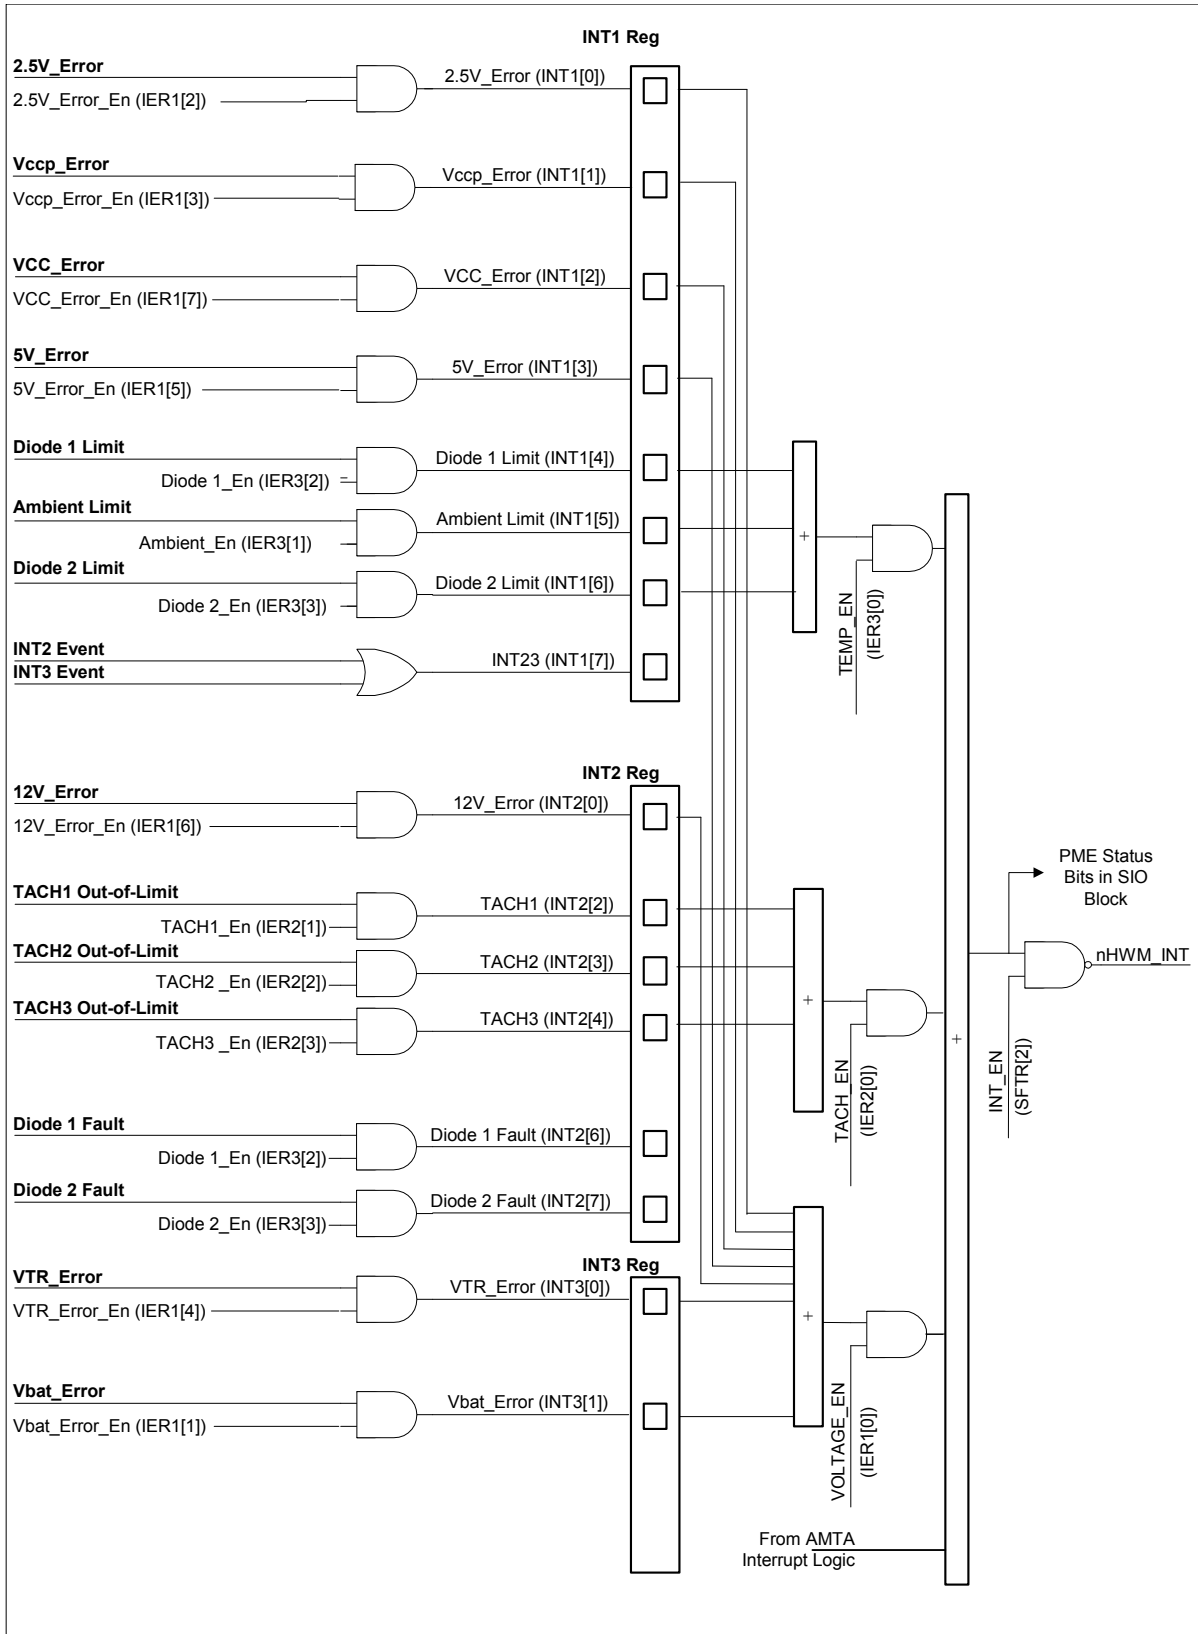

Figure 23.3 Interrupt Control
- The Primary Interrupt Status registers, and the Top Temp Status register may be used to generate a HWM Interrupt event (HWM_Event). A HWM Interrupt Event may be used to generate a PME, SMI, Serial IRQ, or nHWM_INT event. Figure 23.3, "Interrupt Control" shows the Interrupt Status registers generating an interrupt event. To see how the Top Temp Status register generates a Top_Temp_Event see Figure 23.14 AMTA Interrupt Mapping on page 217.
See Figure 23.3 on page 194. The following description assumes that the interrupt enable bits for all events are set to enable the interrupt status bits to be set and no events are being masked.
The hardware monitoring interrupt signal is routed to the SIO PME block. For a description of these bits see the section defining PME events. This signal is unaffected by the nHWM_INT pin enable (INT_EN) bit (See Figure 23.3 Interrupt Control on page 194.)
The hardware monitoring interrupt signal is routed to the SIO SMI block. For a description of these bits see the section defining SMI events. This signal is unaffected by the nHWM_INT pin enable (INT_EN) bit (See Figure 23.3 Interrupt Control on page 194.)
The hardware monitoring interrupt signal is routed to the Serial IRQ logic. This signal is unaffected by the nHWM_INT pin enable (INT_EN) bit (See Figure 23.3 Interrupt Control on page 194.)